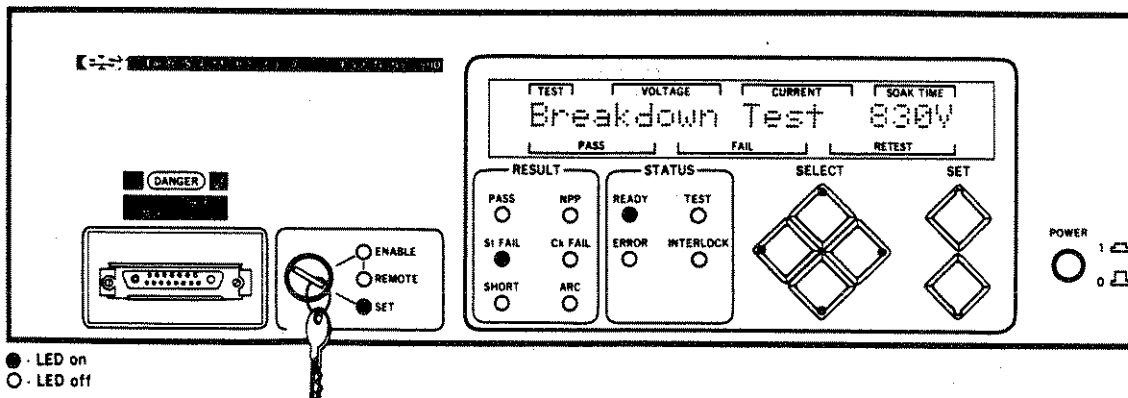

Figure 3-95. Breakdown Test Result Display
STEP 19. When the test is finished, the display will indicate the last voltage tested and a RESULT LED will indicate the test result. If the PASS LED is illuminated, the test reached the Maximum Voltage without a DUT failure. If the DUT failed, the type of failure is indicated by the illuminated RESULT LED. The voltage shown in the display is the Stress voltage of the test that the DUT failed. If the Breakdown test was terminated by an error or by pressing the LEFT pushbutton, no RESULT LED will be illuminated. Figure 3-95 is an example of a display after a DUT failed at 830 volts.